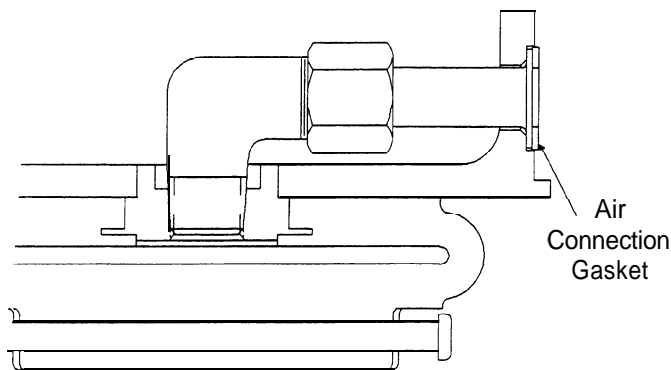

Figure 2
- 2.3.4 Apply a small amount of pliable gasket cement to the air connection gaskets to hold them in position during installation. Install the air connection gasket onto the air tube. See Figure 2.